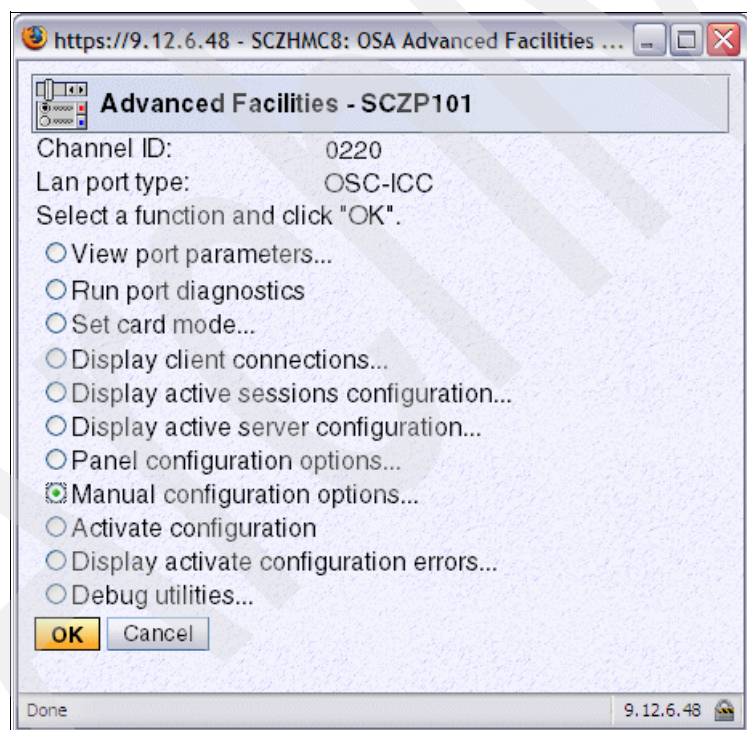

Figure 4-40 HMC - OSA Advanced Facilities (Manual config)
6. Select the radio button **Manual configuration options...**, and click **OK** (Figure 4-40).